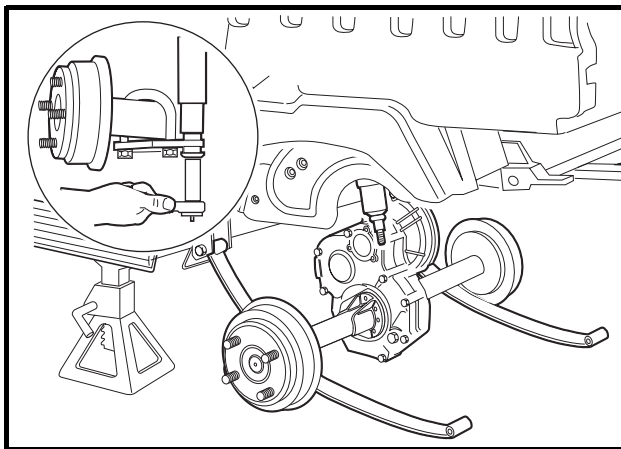

Figure 27-3 Lower Axle
6. Remove the nut, cup washer, and bushing from the bottom side of the shock absorber. Compress the shock absorber (pushing upwards) to move it out of the way (**Figure 27-3, Page 27-3**).
8. To gain easier access to the motor, lower the transaxle as low as it will go. If more room is needed, remove the jack from beneath the transaxle and allow the springs to rest on the floor (**Figure 27-3, Page 27-3**).